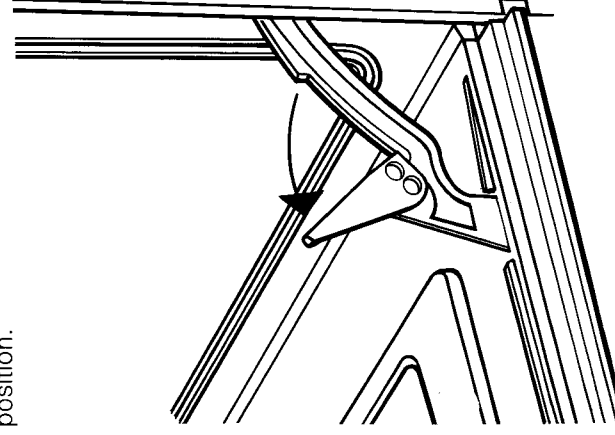

Figure 3
**Do not** lift or carry the oven by the door handles. It is advisable to remove the oven doors before attempting to lift the oven. To do this open the doors fully and swing the hinge 'stops' upwards towards the installer (Figure 3). Close the doors as far as the 'stop' position. Lifting the doors slightly pull them, complete hinges, up and away from the oven housing (Figure 4). Then lift up the oven using the handles in the side of the oven casing and push it into the recess, making sure that the connecting cable is not trapped beneath or behind. Centralise the oven within the housing unit and secure through the side trims using two of the black screws supplied. Replace the oven doors, ensuring that the 'stop' has been pushed into position.